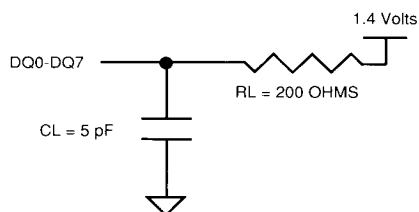

Figure 3
8. Measured from a ± 200 mV change from the steady-state voltage using Test Load as shown in Figure 3.